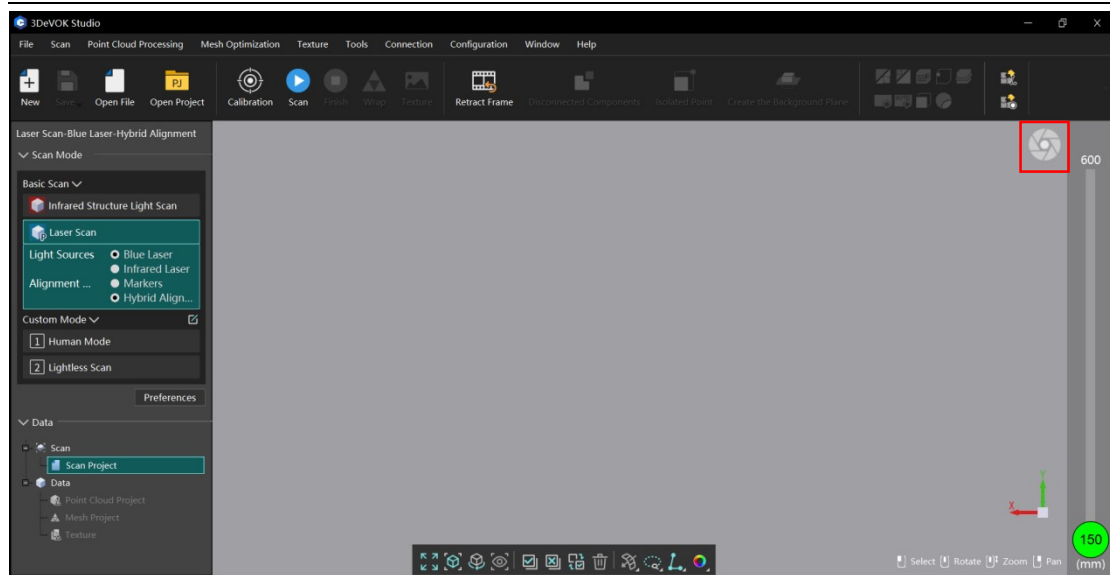

Figure 7-10 Camera Field of View
The camera field of view provides real-time visualization of the scanner's observable area, enabling operators to: (1) verify object position relative to the optimal scanning zone, while simultaneously monitoring (2) laser line intensity, (3) color camera fill light levels, and (4) color camera exposure values for comprehensive process control, which is shown in Figure 7-10.